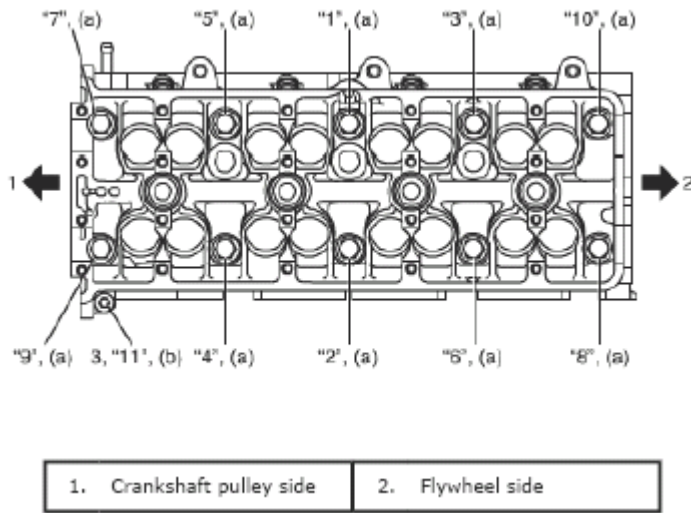

Fig. 115: Identifying Tightening Sequence Of Cylinder Head Bolt
- d. Tighten cylinder head bolts (M10) to 52 N.m (5.2 kgf-m, 38.0 lb-ft) according to numerical order in **Fig. 115**.